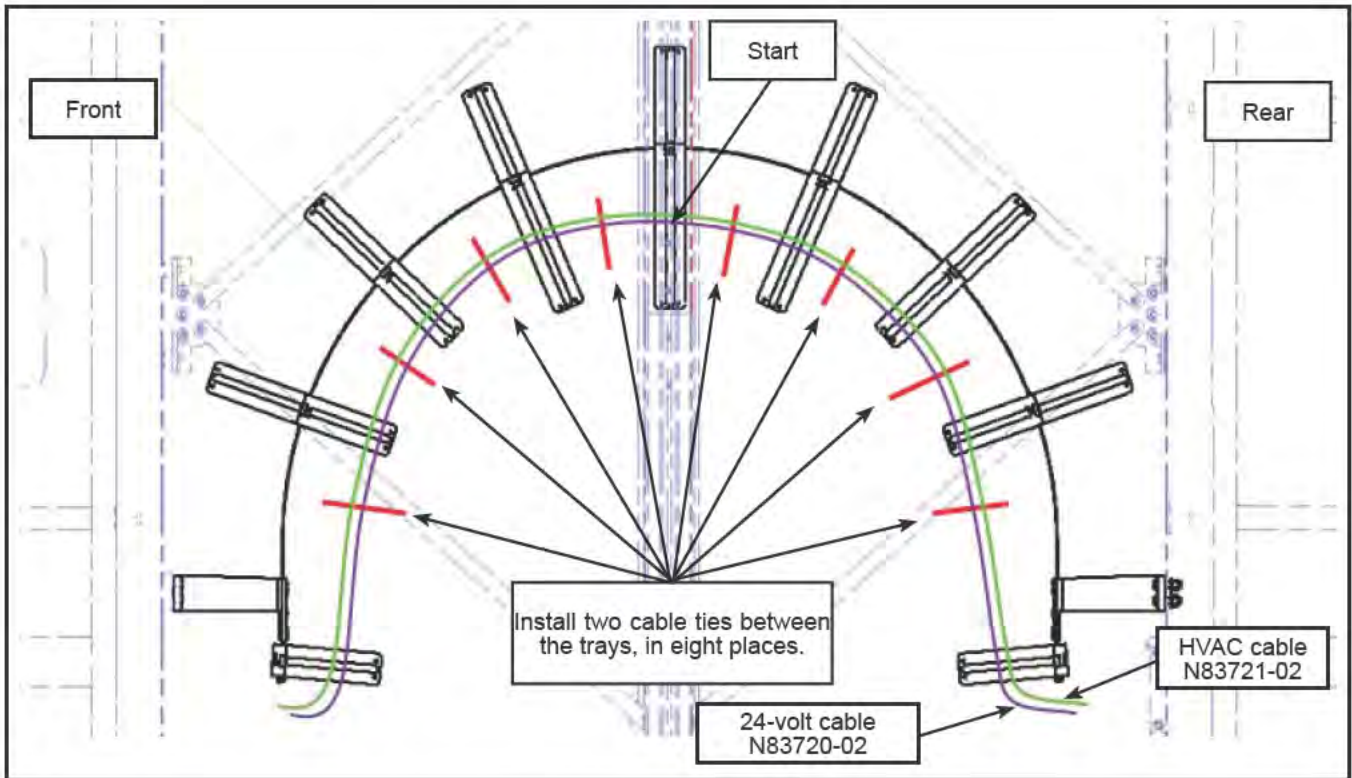

Figure 4 - Install the New Cables
- 1.3. Position the new HVAC cable N83721-02 and 24-volt cable N83720-02 per Figures 4 and 5. Add cable ties to keep the cables in place but do not tighten them yet. Using the middle of the EGS system as the starting point, route the 2 cables evenly towards the front and the rear.